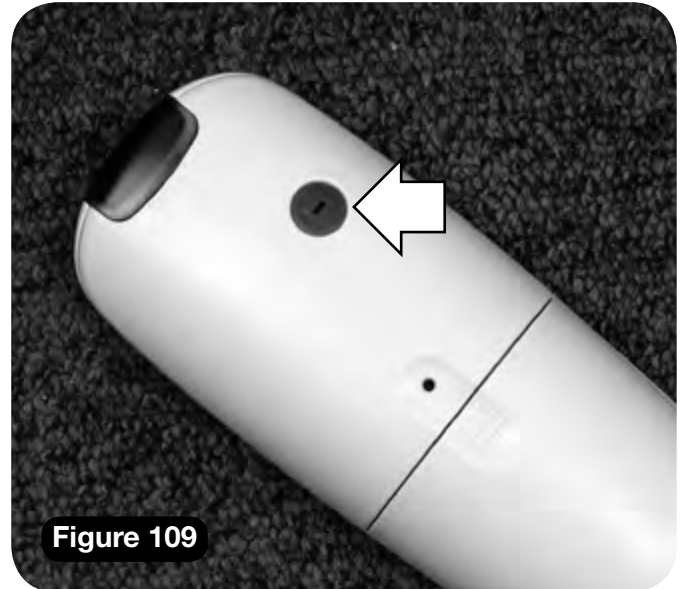
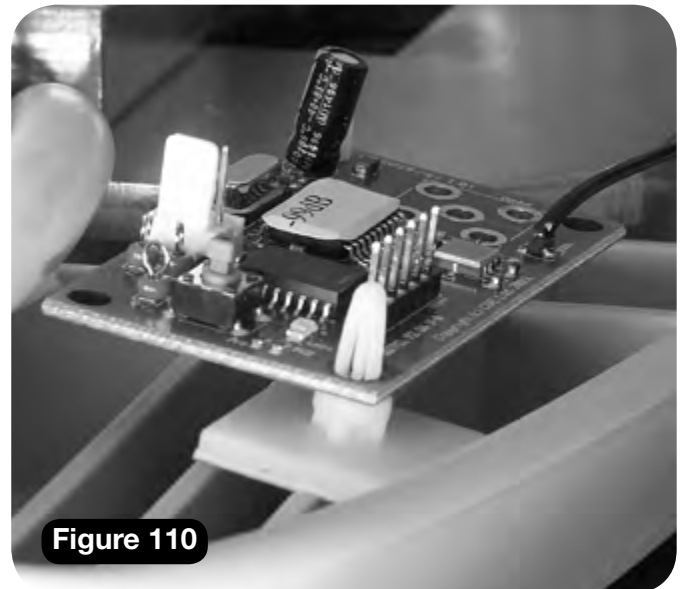

Figure 109
Figure 110
The 2000 series stairlift may be supplied with infrared or radio frequency remote controls, dependant on the requirements of the installation. The infrared remote control has a red dipswitch cover on the rear, whilst the radio frequency remote control has a green dipswitch cover on the rear (**Figure 109**). If you are still unsure as to the type of remote control system you have fitted refer to your drawing or remove the pack underpan and look to see if a radio receiver board has been fitted (**Figure 110**).
- i** Remove the red dipswitch protection cap with a small screwdriver (**Figure 109**).